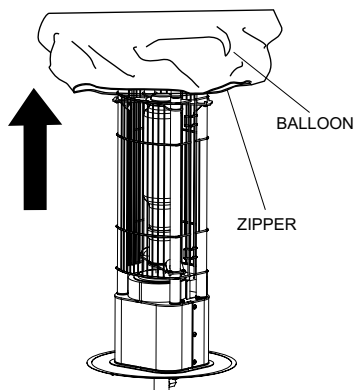

Figure 26. Exposing Balloon
1. Unzip the zipper at the bottom of the balloon and roll the balloon up to expose the lamp. See Figure 26.